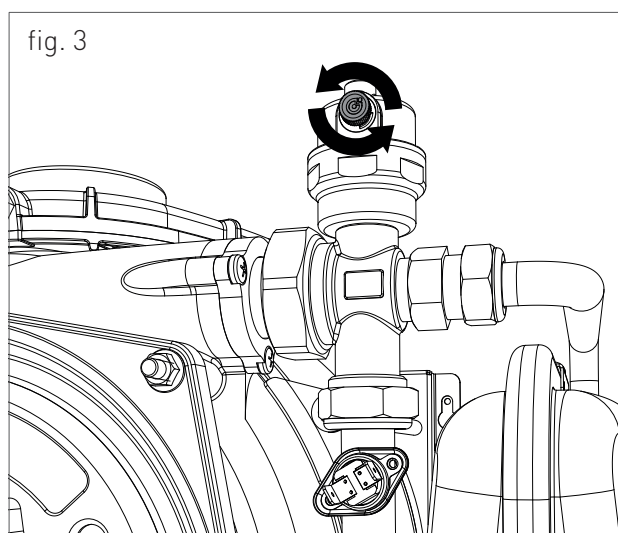

fig. 3
For machine positioning, proceed as follows (see fig. 3):
2. slightly loosen the cap of the jolly valve placed on the top of the condensing block (fig. 3) to release the air from the top of the system;